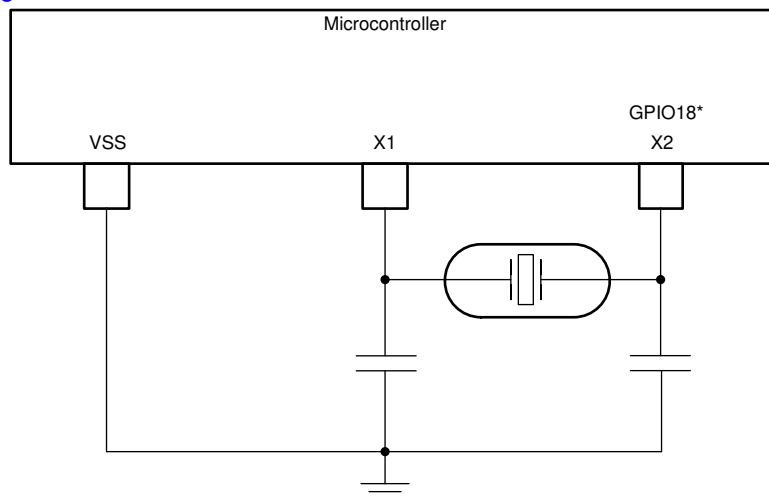

Figure 7-13. External Crystal
- An external crystal. The crystal should be connected across X1 and X2 with its load capacitors connected to VSS as shown in Figure 7-13.